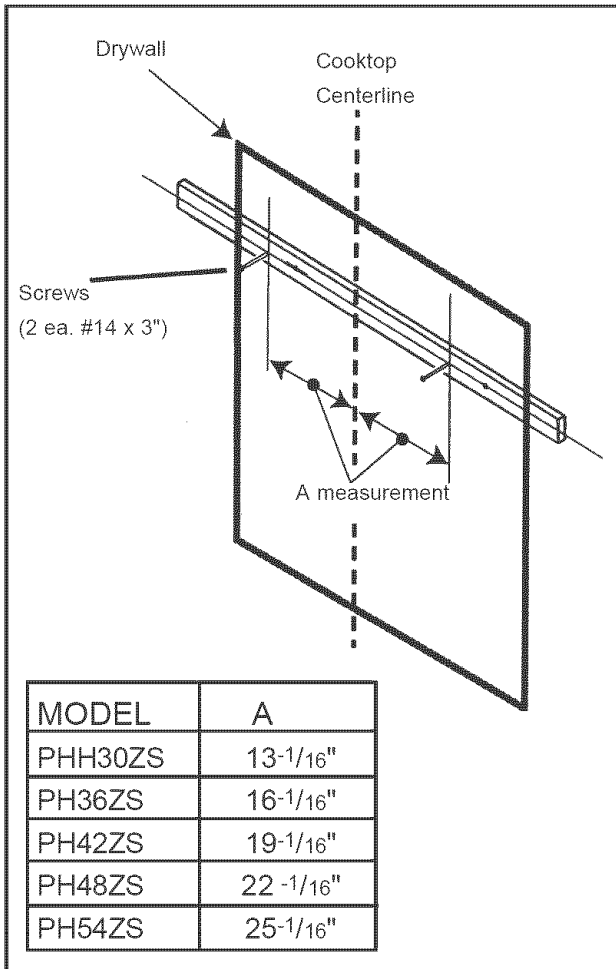

Figure 4
8. On the wood bracket mark the locations used to hang the hood according to Figure 4 (next page).